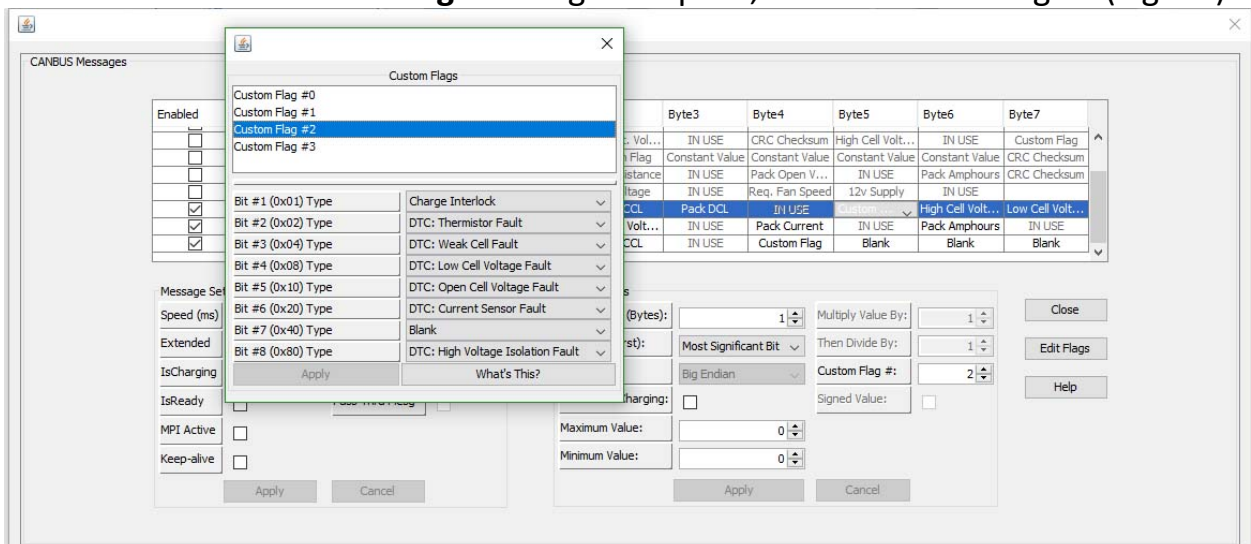

Fig. 33
16. When the “Custom Flags” dialog box opens, select Custom Flag #2 (Fig. 33).
17. Verify that the Bit settings reflect what is depicted in (Fig 33).